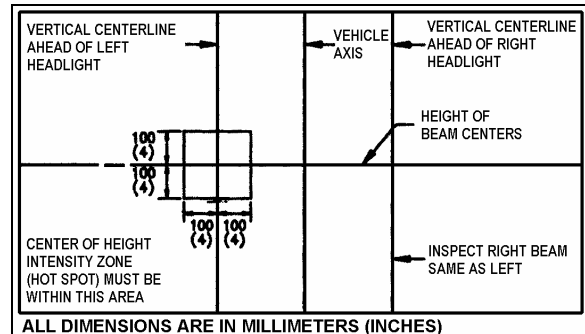

FIGURE 37: AIM INSPECTION LIMITS FOR UPPER-BEAM HEADLIGHTS
7. The inspection limits for high-beam headlights shall be with the center of the high-intensity zone from 10 cm (4 inch) up to 10 cm (4 inch) down; and, from 10 cm (4 inch) left to 10 cm (4 inch) right on a screen at 7.6 m (25 ft.) (Fig. 37).